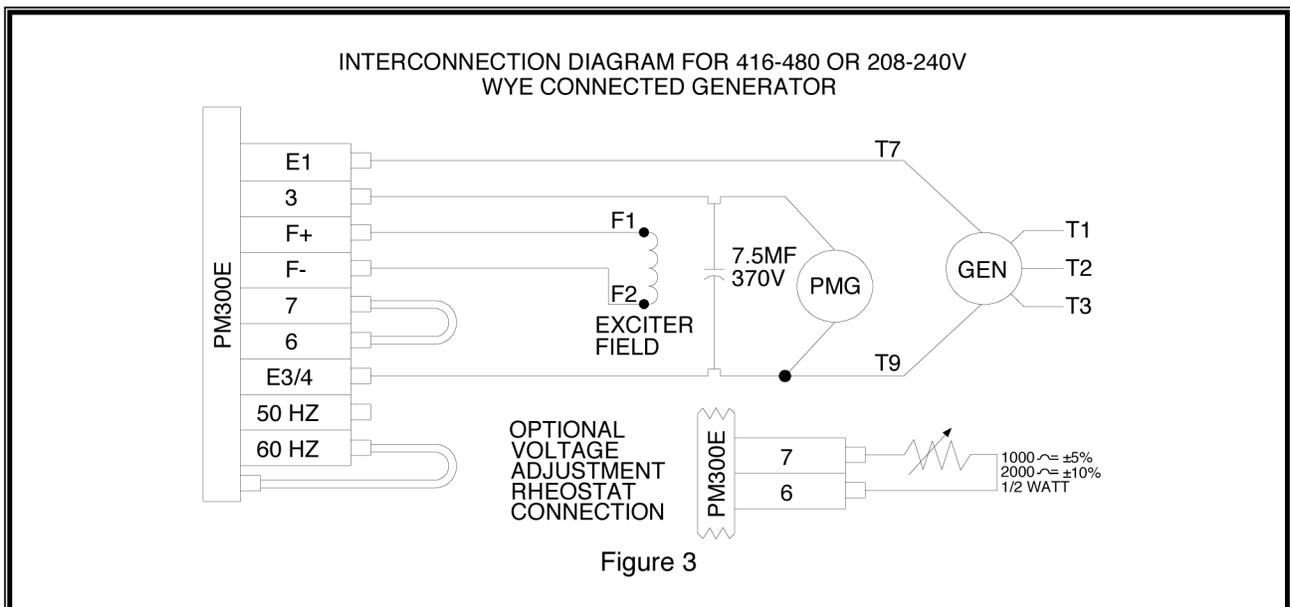

Figure 3
See figure 3 for typical High Wye (416-480V) or Low Wye (208-240V) connections. For High Delta (240V) or 120/240V single phase Zig-Zag, use generator leads
- When using a remote voltage adjust rheostat, remove the jumper wire across terminals 6 and 7 and install a 2000 ohm 1/2 watt (minimum) rheostat. (See Figure 3). This will give  $\pm 10\%$  voltage variation from the nominal. (For  $\pm 5\%$  voltage variation use a 1000 ohm 1/2 watt rheostat).
- There are two small jumpers on the regulator. (See Figure 3).